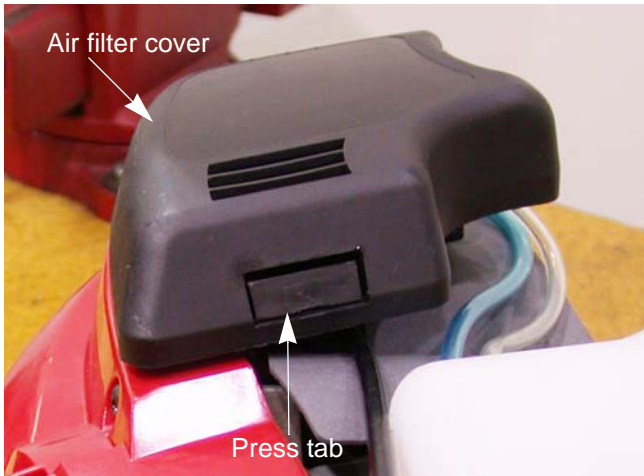

Figure 2.5
1. Remove the air filter cover by pressing in the tab on the bottom of the filter housing and lifting the cover off. See Figure 2.5.